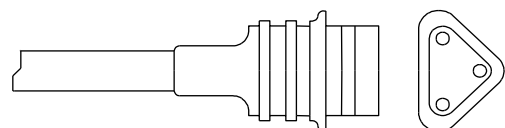
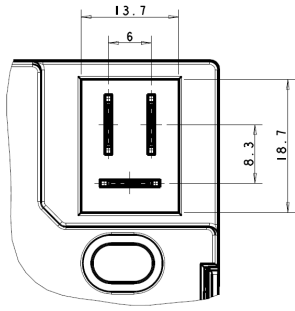

Fig. 2
Fig. 3
- ↳ **F:** supply with fast-on (Fig. 3);
The transformers can be provided with a power supply cable equipped with a triangular die-cast outlet type SP1 (Fig. 2/4), or female terminals of 6.35x0.8 dimensions (for outlet of Fig.3); cable length and termination type depend on customer's request.